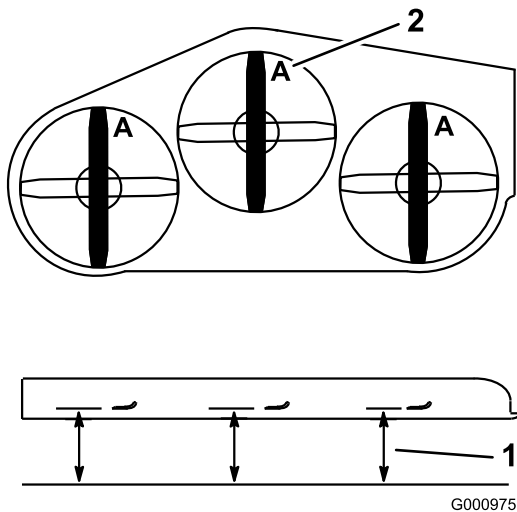

Figure 84
4. Measure at **A**, and from a level surface to the cutting edge of the blade tips (Figure 84).